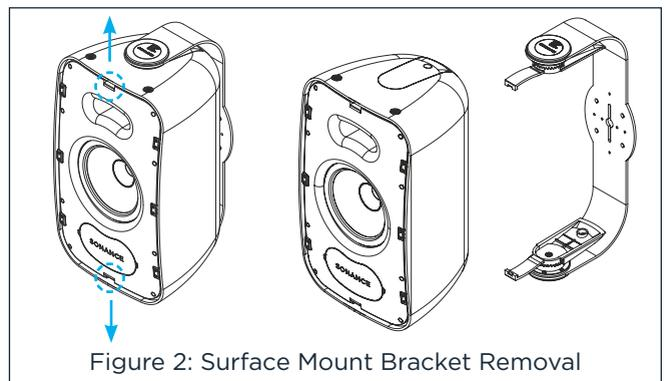

Figure 2: Surface Mount Bracket Removal
1. Remove the speaker from the mounting bracket by pulling the tabs on the front panel outward and away from each other (see Figure 2).